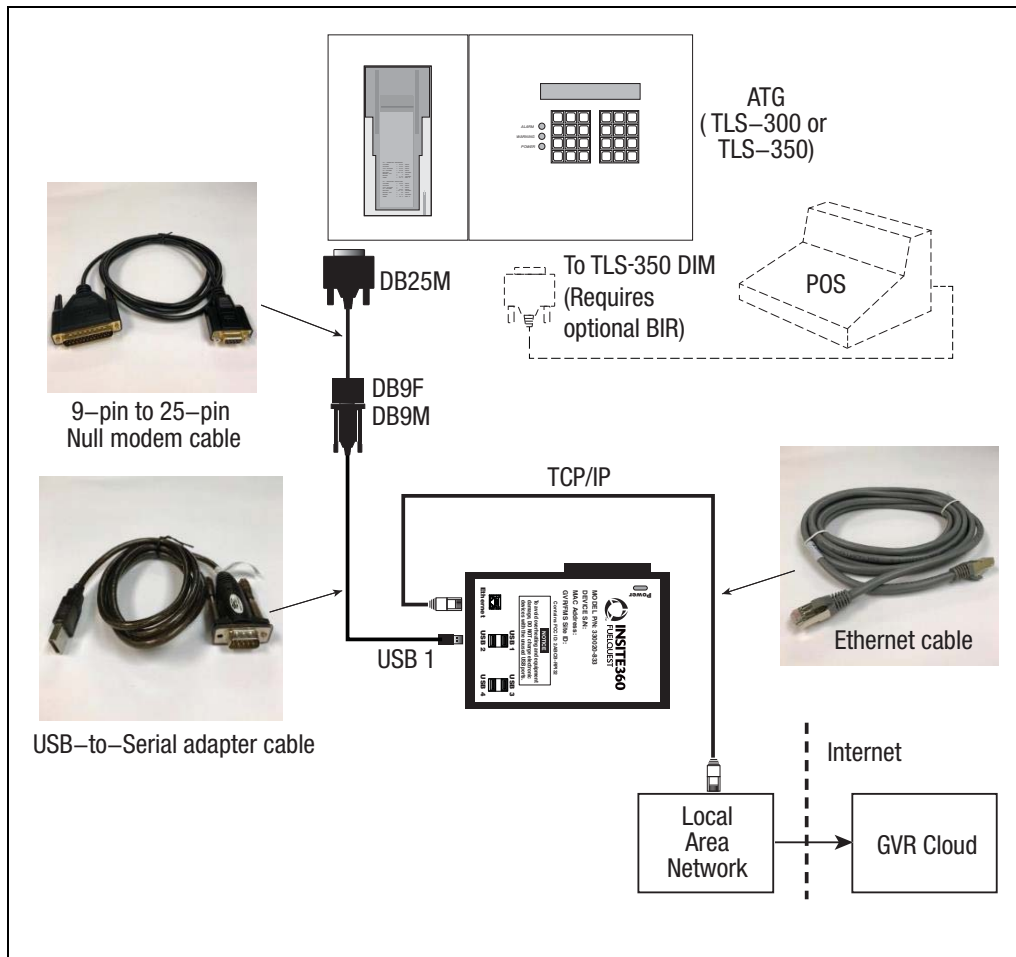

Figure 3. Scenario 1 Insite360 Connect Hookup - TLS-300/350 With DB25 Serial Port Connection
1. Connect the Insite360 Connect's USB 1 Port to an available RS232 serial port on the ATG, using the USB to Serial Adapter cable connected to either the DB9 female / DB9 male 6' cable (Figure 2) or the DB9 female / DB25 male 6' cable (Figure 3), depending on the ATG's available serial port connector type.